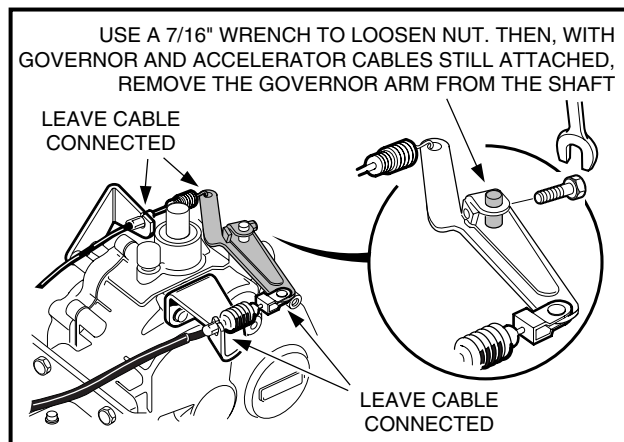

FIGURE 10-32
16. Use a 7/16" wrench to loosen the governor arm retaining bolt, then remove the governor arm from the shaft (**Figure 10-32**). See NOTE below.